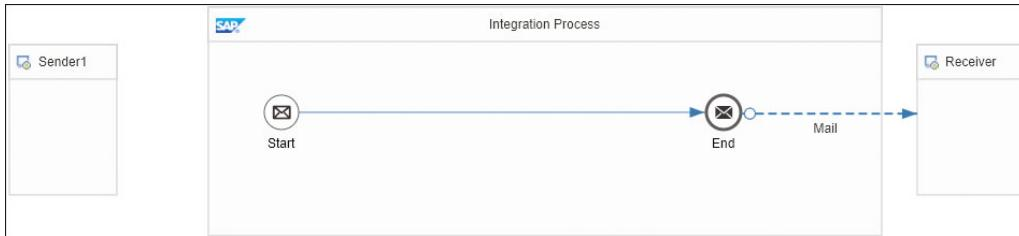

Figure 6.106 Simple Integration Flow to Start With
2. Either create a new integration flow or reuse an existing one. We propose that you start with this integration flow model (Figure 6.106).